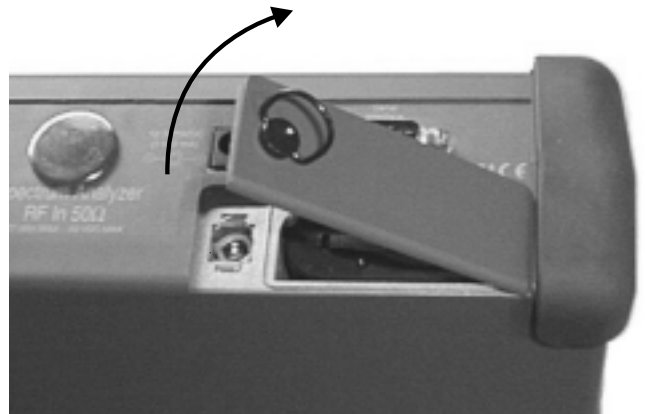

Figure 9. Removing the Battery Access Door
3. Lift the door and remove, as illustrated in Figure 9.